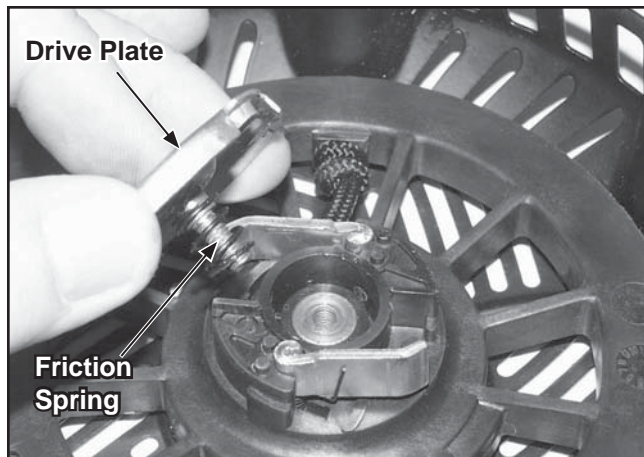

Figure 7-8. Center Screw and Drive Plate.
6. Position the drive plate over the pawls, aligning the actuating slots in the plate with the raised sections on each drive pawl. Torque the center screw to **10 N·m (89 in. lb.)**. Rotate the pulley by hand and check operation. See Figure 7-8.